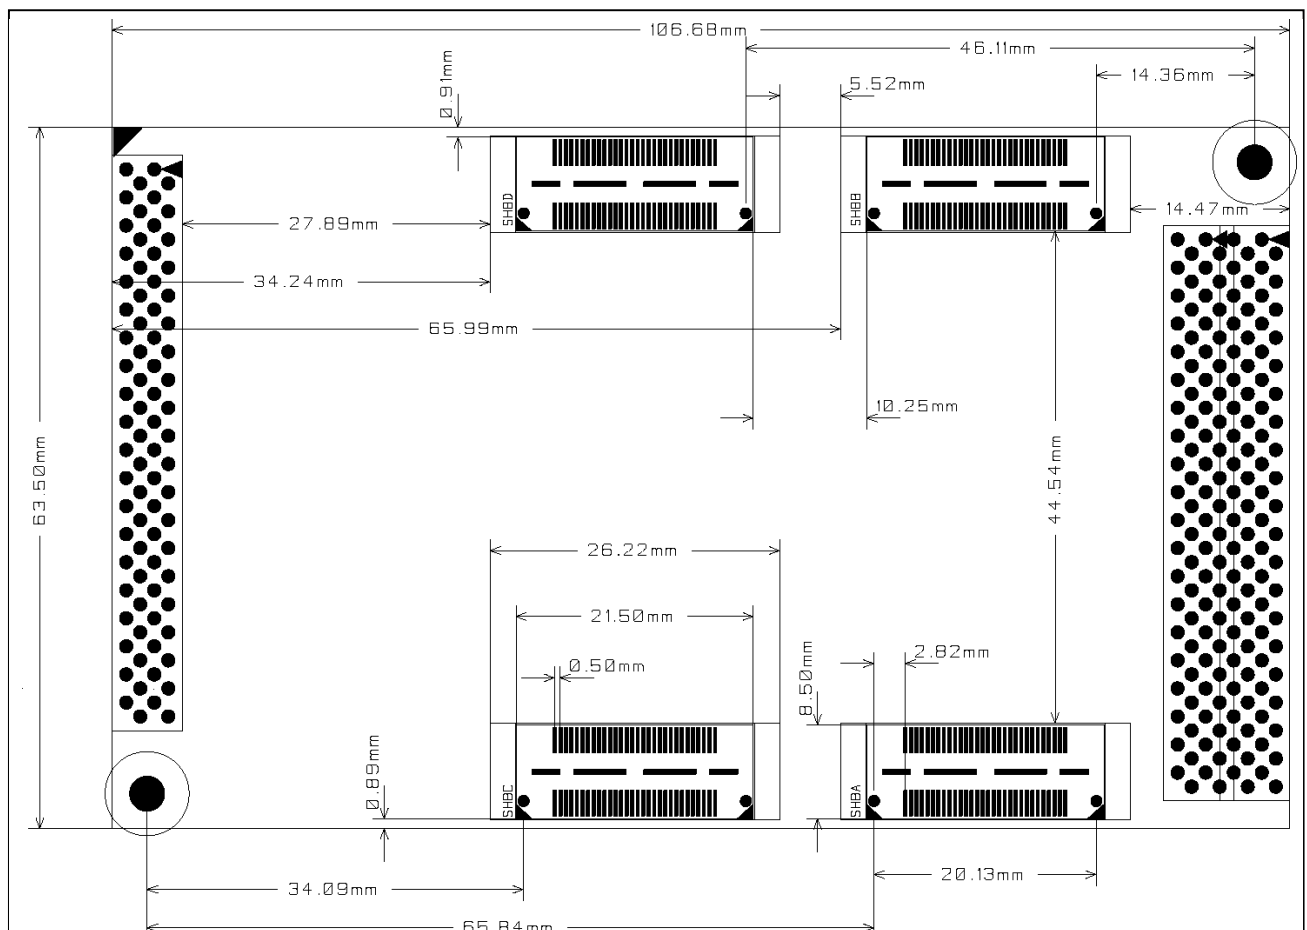

Figure 4: QSH placements on TIM module
- ❑ **SHB A** and **SHB B** (see Figure 4): Map **W0**.
- ❑ **SHB C** and **SHB D** (see Figure 4): Map **W1**.
In order to plug a cable on SHBC and SHBD (See Figure 4), the cable assembly must be able to overlap with components and meet the minimum height restriction on the board.